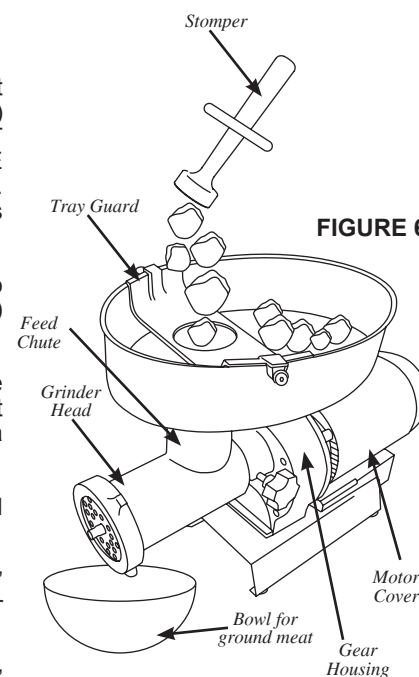

FIGURE 6
6. Place a dish or bowl to collect the ground meat at the end of the **Grinder Head** (Figure 6).